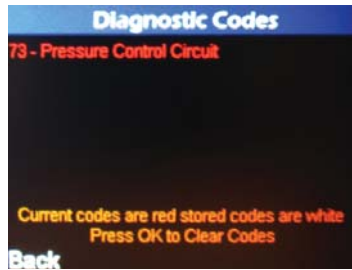

Figure 6
2. The following screen, "DIAGNOSTIC CODES", will indicate what codes are present (**Figure 6**).